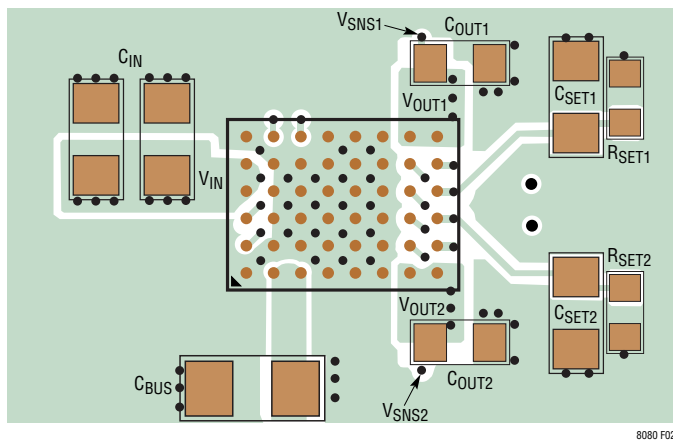

Figure 2. Layout Showing Suggested External Components, GND Plane and Thermal Vias
Most of the headaches associated with PCB layout have been alleviated or even eliminated by the high level of integration of the LTM8080. The LTM8080 is, nevertheless, a switching power supply, and care must be taken to minimize EMI and ensure proper operation. Even with a high level of integration, you may fail to achieve specified operations with a haphazard or poor layout. See Figure 2 for a suggested layout. Ensure that the grounding and heat sinking are acceptable.
6. Use vias to connect the GND copper area to the board's internal ground planes. Liberally distribute these GND vias to provide both a good ground connection and thermal path to the internal planes of the printed circuit board. Pay attention to the location and density of the thermal vias, as shown in Figure 2. The LTM8080 can benefit from the heat sinking afforded by vias that connect to internal GND planes at these locations due to their proximity to internal power handling components. The optimum number of thermal vias depends upon the printed circuit board design. For example, a board might use tiny holes. Therefore, it should employ more thermal vias than a board that uses larger holes.